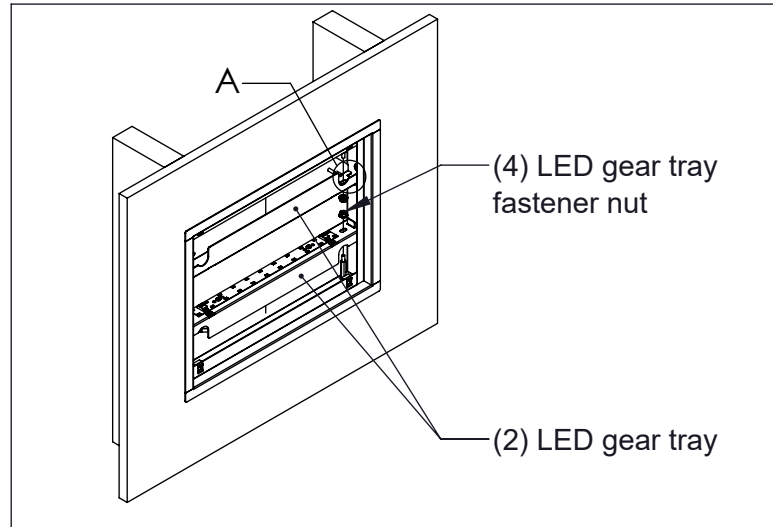
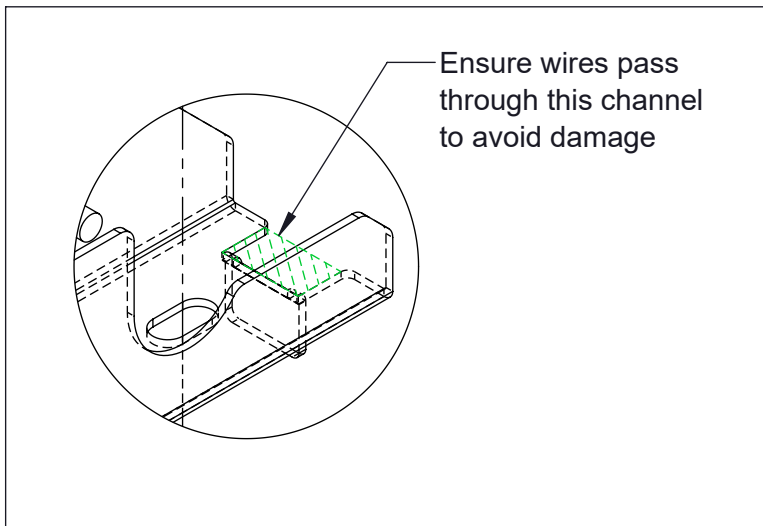
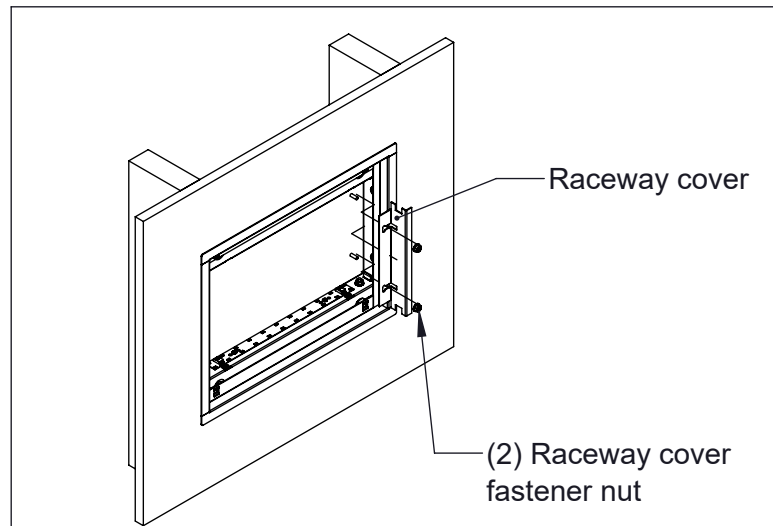

Figure 7
Figure 8 (Detail A)
Figure 9
5. Bring AC power lead (and EM circuit lead, if applicable) into the fixture and make electrical connections per wiring diagram, then reinstall LED gear trays (Fig. 7, Fig. 8) and raceway cover (Fig. 9) into housing. For fixtures with the remote emergency driver option, please consult the instruction sheet included with the battery pack.